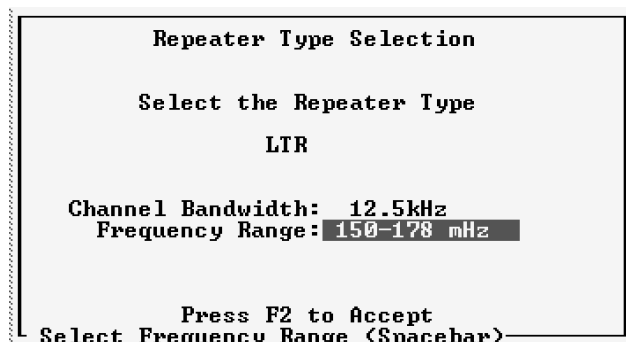

**Figure 4-10 ALARM CROSS REFERENCE**
This is a text string (up to 15 characters) to describe the alarm. This test string is sent via Morse code if the alarm input is programmed with a Tx ID and an output is selected in the cross reference menu (see Figure 4-10).
*NOTE: More than one alarm condition can have the same output alarm (see Figure 4-10).*